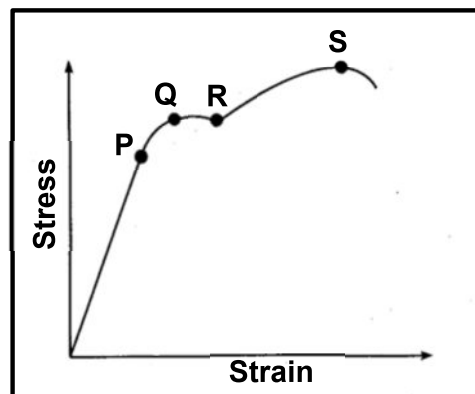

FIGURE 4.7
- D MIG welding machine (1)
4.7 FIGURE 4.7 below shows the stress-strain diagram obtained during a tensile test on mild steel. What is indicated by **S** in the diagram?